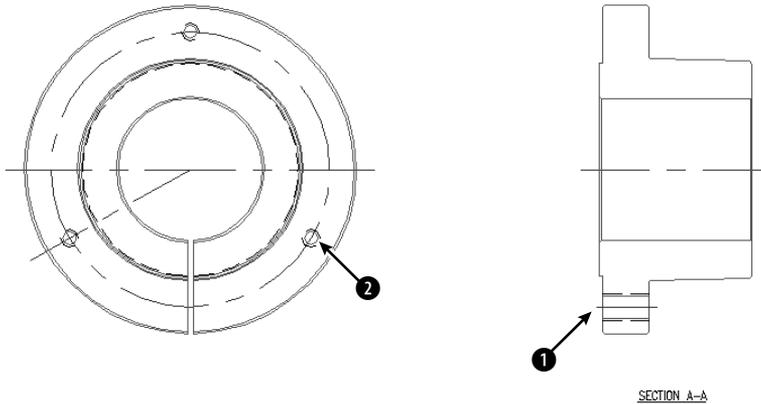
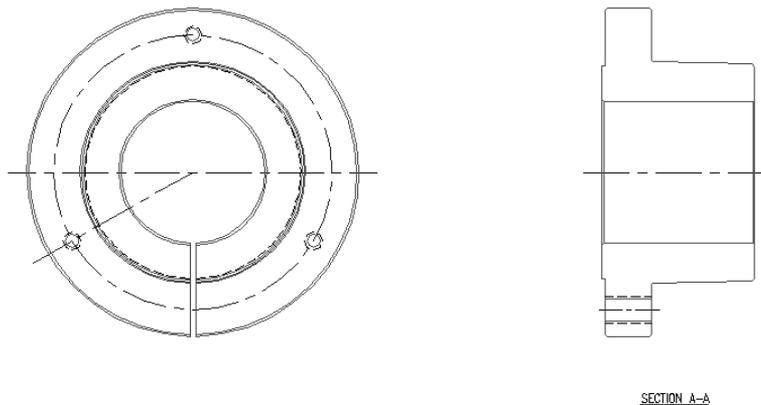

Figure 11-27: This drawing of a bushing has two noncontinuous linetypes. Thanks to Robert Mack of the Dexter Company, Fairfield, Iowa, for this drawing.
Figure 11-28: The drawing's noncontinuous lines are now more appropriate.
2. Save the file as ab11-05.dwg in your AutoCAD Bible folder. This drawing is of a bushing, as shown in Figure 11-27. Notice that the linetype doesn't show clearly on the short line at ❶ and in the small circle at ❷.
3. Choose Format ⇨ Linetype. Click Show Details to open the Details section of the Linetype Manager, if necessary. Change the Global scale factor to 0.5. Click OK. The drawing regenerates. Note that the circles are better, but the short line at ❶ still looks like a continuous line.
4. Choose the line at ❶. Choose Properties from the Standard toolbar. Click Linetype scale and change it to 0.5. Press Enter. Press Esc to remove the grips and see the result. Notice the difference in the line, which now has a linetype scale of 0.5 (global) times 0.5 (object) = 0.25.
5. Save your drawing. It should look like Figure 11-28.